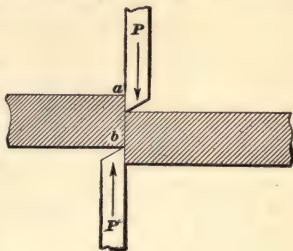

FIG. 6.
48. The **shearing strength** of any material is the resistance offered by its fibers to being cut in two. Thus, the pressure of the cutting edges of an ordinary shearing machine, Fig. 6, causes a shearing stress in the plane ab . The unit shearing force may be found by dividing the force P by the area of the plane ab .